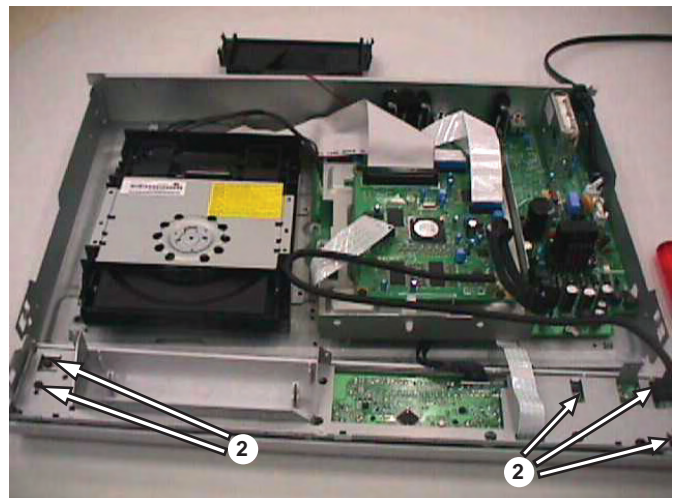

Figure 4-4
- 2) Remove the 5 screws 186 to remove the front plate 184 as shown in Figure 4-4.